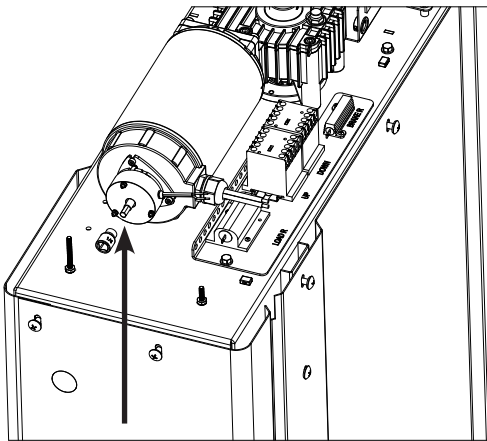

Figure 6-10
6. Use the provided  $\frac{1}{4}$ " socket with a  $\frac{3}{8}$ " ratchet or a cordless drill. Power the drill in the forward direction - rotating clockwise to lower the platform. *See Figure 6-10.*